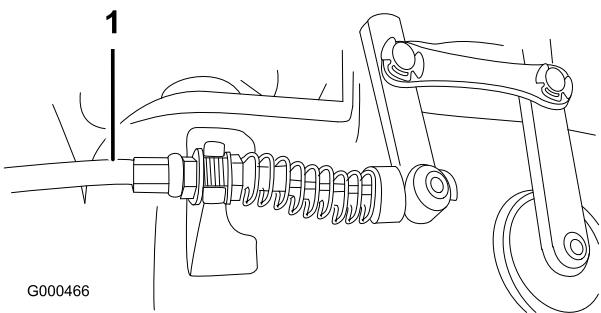

Figure 46
2. To increase cable tension, loosen front cable jam nut and tighten back cable jam nut (Figure 46) (located on top of gear box) until the reel cable force adds 7 to 10 lbs. of additional handle force measured at the control knob.